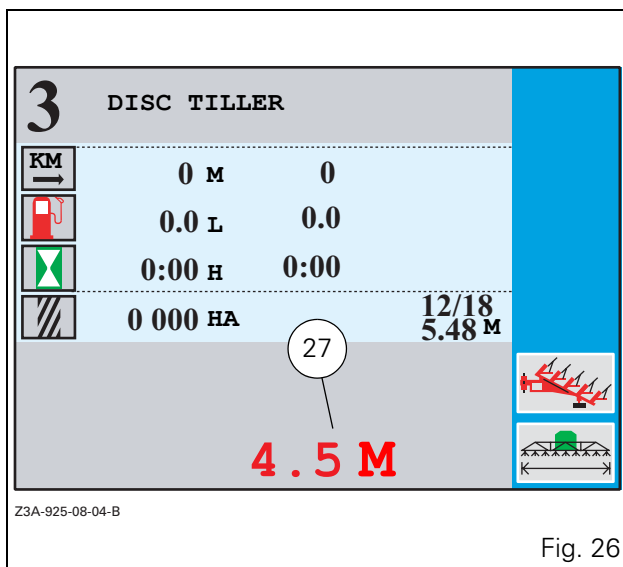

Fig. 26
- Press the key «₆ to display the settings window (Fig. 26). The width is displayed in red on colour screens (27) or in reverse video on b/w screens.